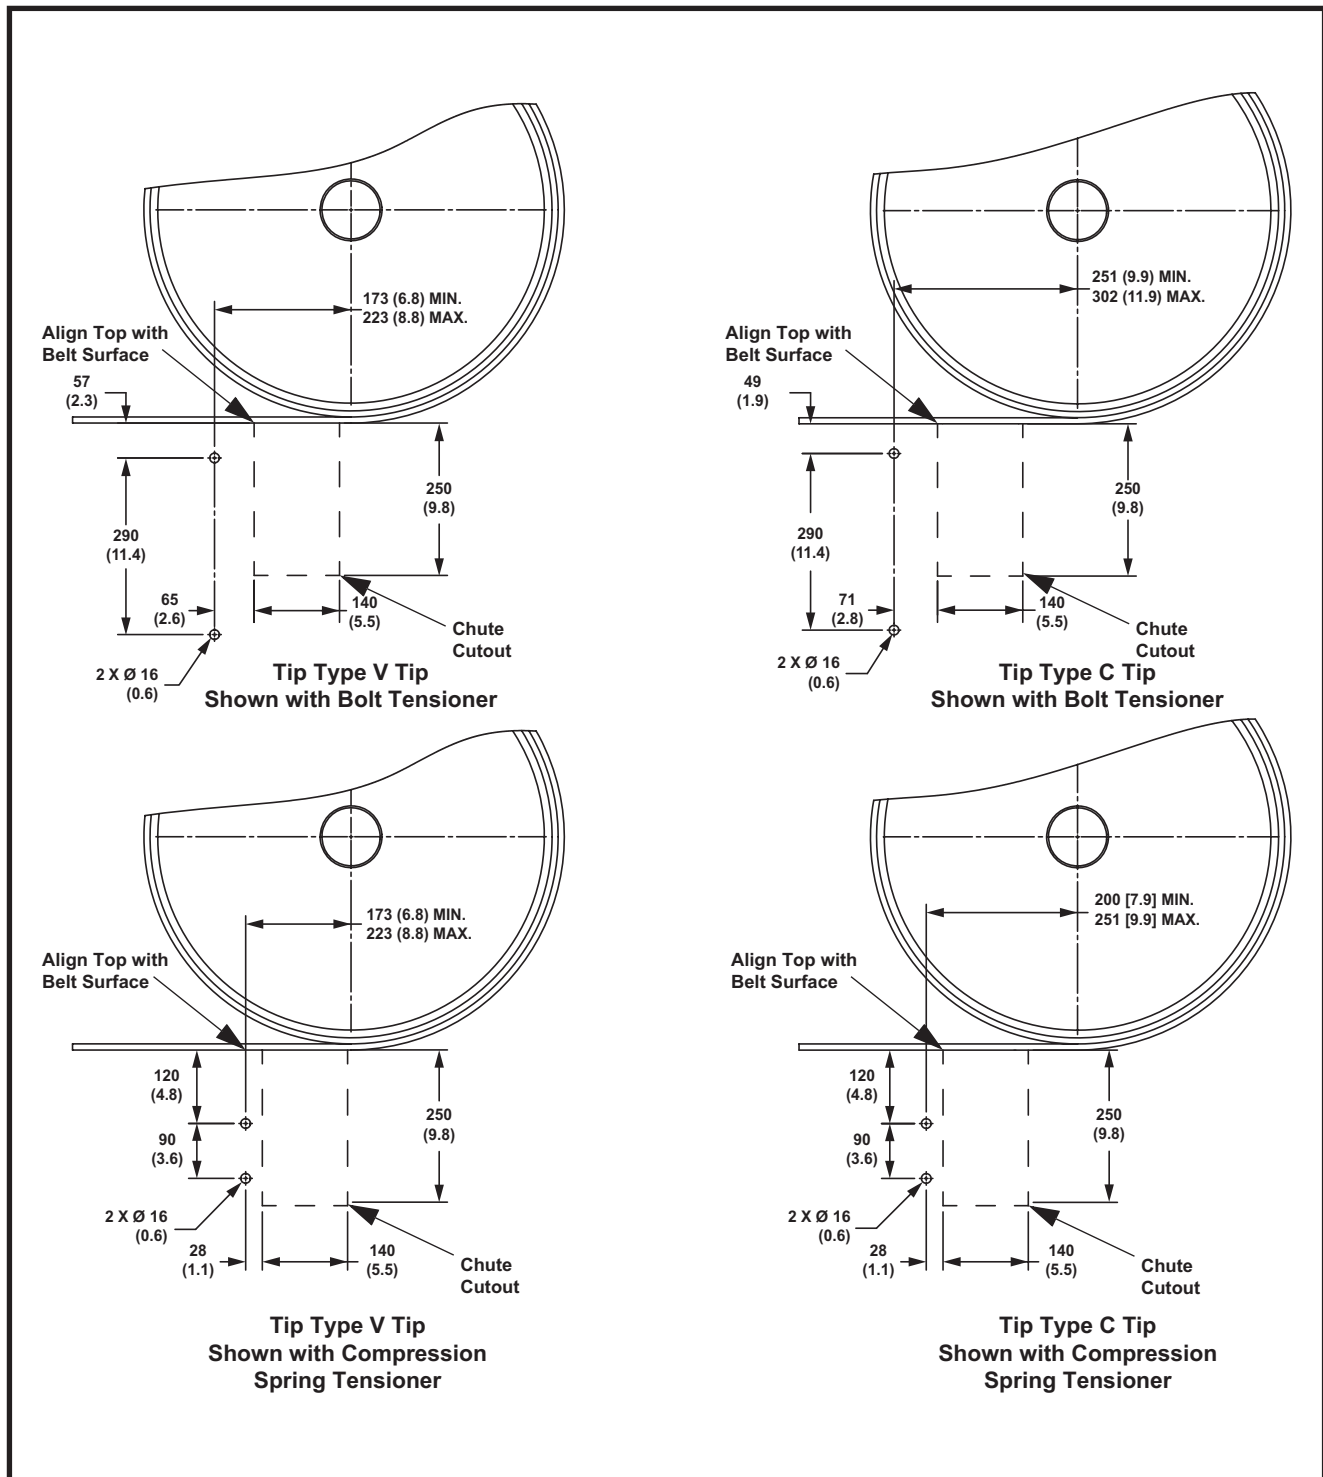

Figure 4. Martin® P2 Secondary Belt Cleaner HD Chute Cutout Locations
5. At the selected mounting positions, cut the cleaner access slots and drill the mount holes in each side of the chute. Dress and de-burr the holes and cutouts. (Refer to Figure 4.)